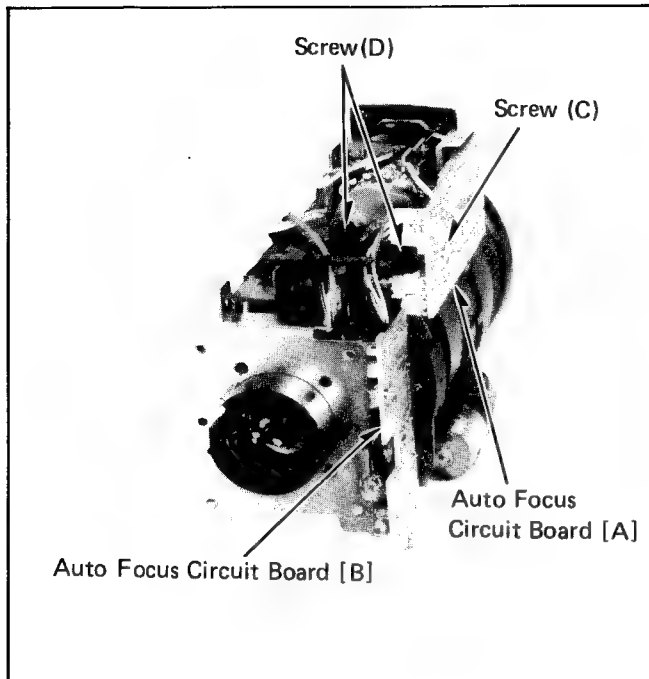

Fig. 16 Lens and Zoom Motor
- 5-3. Unscrew a screw (C) and open the auto focus [A] circuit board (see Fig. 16).
- 5-4. Unscrew 2 screws (D) and remove the zoom motor (see Fig. 16).